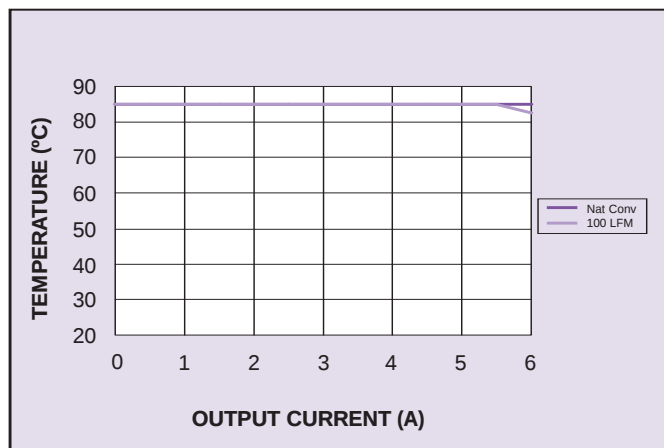

Figure 3 - Safe Operating Area for PTH12050L
- The pk-pk output ripple voltage is measured with an external 10 μF ceramic capacitor. See Figure 3 Standard application schematic.